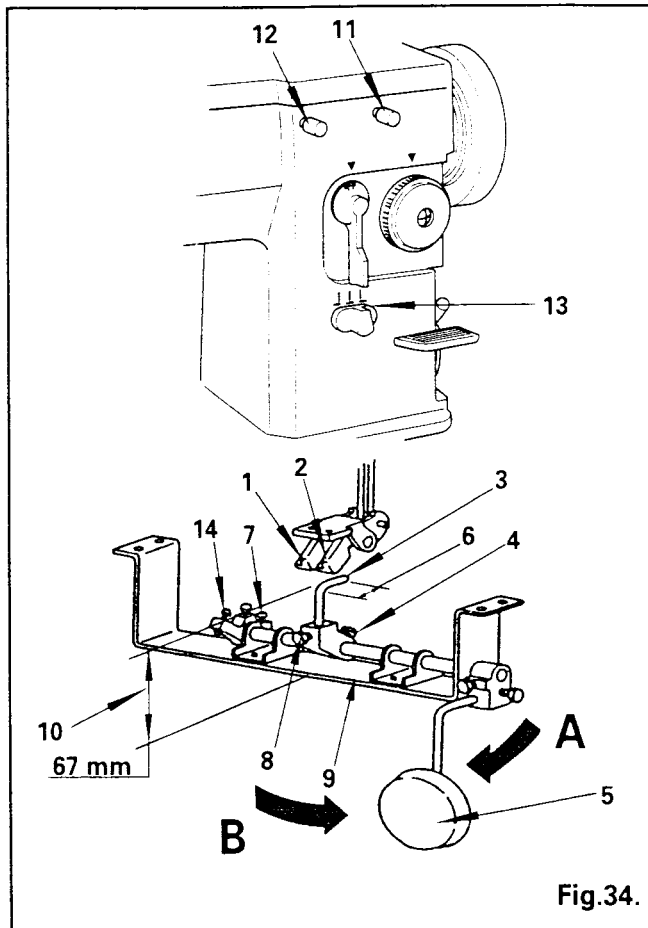

Fig.34.
Bell cranks (1) and (2) shown in Fig.34 are fastened to the underside of the bed. Bell crank (1) is used for lifting and lowering the presser foot with knee and bell crank (2) is used for controlling the stitch width.
To control the stitch width with knee, loosen screw (4) holding the knee lifter shaft arm (3) and move knee lifter shaft arm (3) just under the bell crank (2) and firmly tighten screw (4). (See Fig.34)
Loosen the lock nut holding screw (7) and turn screw(7) as required, so that the bent end (6) of knee lifter shaft arm (3) will be almost horizontal when knee lifter knee plate (5) is pushed as far as it will go in the direction indicated with arrow (A). Then firmly tighten the lock nut. (See Fig.34)
With knee lifter shaft arm (3) set in position as described above, loosen screw (8) and move knee lifter shaft arm (3) up or down as required, so that height (10) from its bent end (6) to bracket is 67 mm. (See Fig.34)
Loosen stitch width regulating plate thumb screws (11) and (12) so that stitch width regulator (13) can be moved from zero to maximum stitch width. (20U51/53: 9 mm, 20U62/63: 12mm). (See Fig.34) Loosen the lock nut holding screw (14) and turn screw (14) as required, so that knee lifter knee plate (5) when pushed in the direction indicated with arrow (B), will stop at the maximum stitch width position of stitch width regulator (13). Then firmly tighten the lock nut. (See Fig.34)
Stitch width will become wider when knee lifter knee plate (5) is pushed in the direction indicated with arrow (B) and will become smaller when knee plate is released. (See Fig.34)